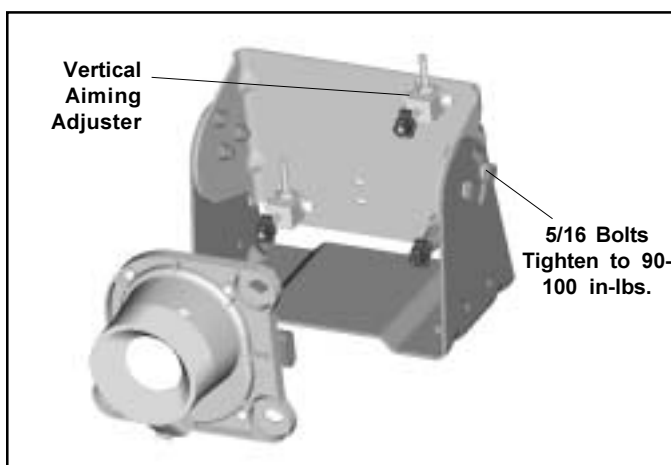

FIGURE 39 - VERTICAL AIMING ADJUSTER
1. Using Figures 39 - 42 and a T15 torx wrench, adjust the angle of the IR camera as needed.